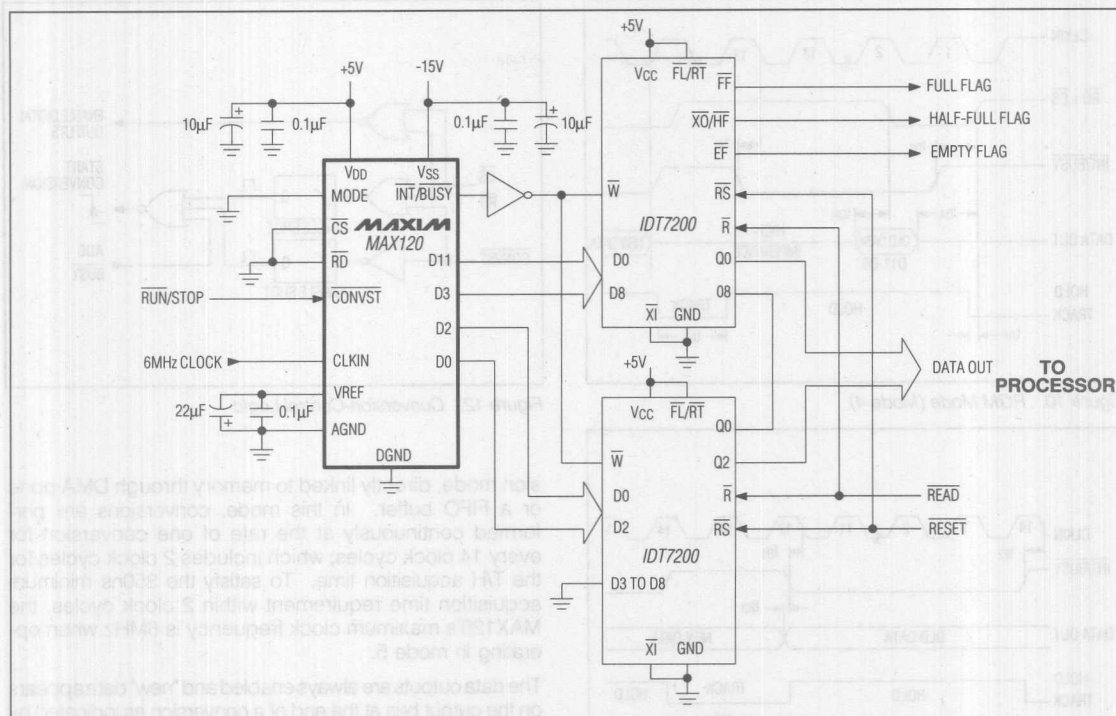

Figure 13. Using MAX120 with FIFO Memory
Using FIFO memory to buffer blocks of data from the MAX120 reduces μ P interrupt overhead time by enabling the μ P to process data while the MAX120, unassisted, writes conversion results to the FIFO. To retrieve a block of data, the μ P reads from the FIFO via a read-interrupt cycle. Read and write operations for the FIFO are completely asynchronous. Figure 13 shows the MAX120 operating in continuous-conversion mode (mode 5), writing data directly into the two IDT7200 256 x 9 FIFO buffers at the rate of 428ksp/s. The μ P is interrupted to read the accumulated data by the FIFO's half-full (HF) flag approximately three times per millisecond. For operation at 500ksp/s, use an 8MHz clock, and pulse CONVST at 500kHz. The full flag (FF) indicates that the FIFO is full. If this flag is ignored, data may be lost. If necessary, conversions can be inhibited by pulling CS, RD, or CONVST high. The FIFO's read cycle times are as fast as 15ns, satisfying most system speed requirements. The RESET input resets all data in the FIFO to zero.